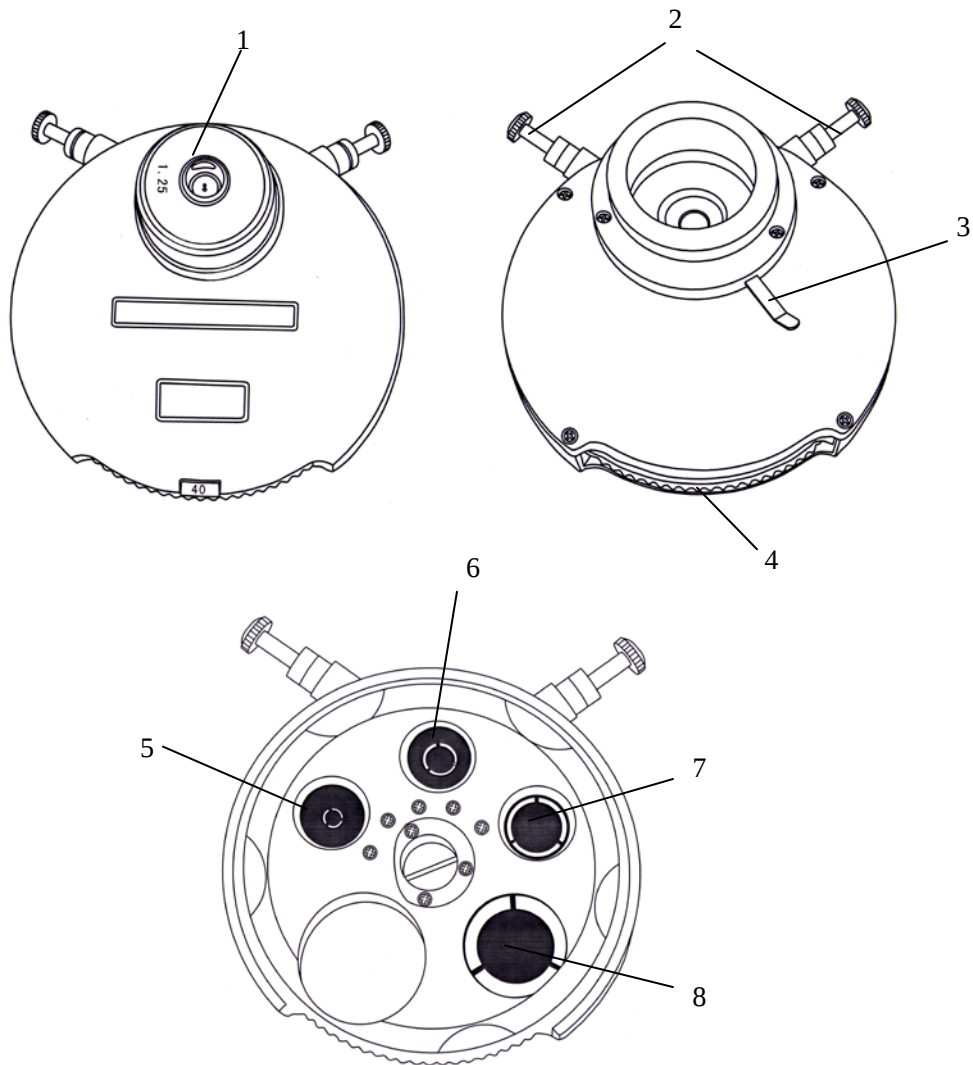

Fig. 2 Turrent Disc
2. Phase contrast condenser (See Fig. 2)
"10" means matching 10X phase contrast objective, "40" means matching 40X phase contrast objective, "100" means matching 100X phase contrast objective (oil). "DF" represents to use for Dark field observation. "BF" represents Bright field observation. The center of each annular diaphragm can be adjusted by 2 adjusting screws. (See Fig. 2)
While observing in normal Bright field,in order to obtain the image resolution and contrast,increasing depth of field,adjusting the Aperture diaphragm adjusting rod (Fig.2), to set
disc (Fig.2) to "10"
- e. Press annular diaphragm centering knob (Fig.2), rotating and make bright annular coincide with dark annular completely, light leak is not allowed. (see Fig. 5.b)
- a. After phase contrast method adjusting, turn the turret disc (Fig.2) to "DF", make dark viewing field in eyepiece, then fine focusing the specimen to obtain the clear image of micro granule.